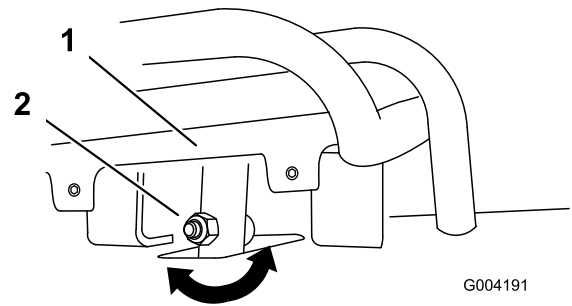
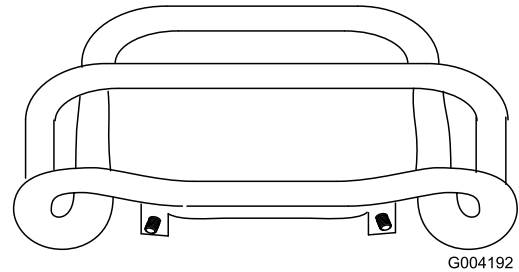

Figure 52
Figure 53
4. If the front of the traction control does not rest square and flush with the reference bar, loosen the flange nut and bolt in the stem of the traction control (Figure 52).
5. Adjust the traction control so that it rests flush against the reference bar when it is pulled straight back (Figure 52 and Figure 53).